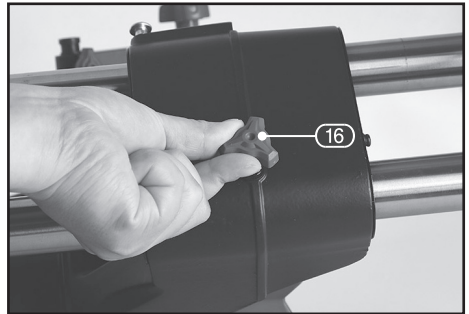

FIG.3
- Lift the mitre saw only when the saw arm is locked in the down position the sliding mechanism is locked (Fig.3.) and the machine is completely isolated from the power source by unplugging cable or removing battery.
- Only lift the saw by the carrying handles (23) and (24), or outer castings.
- Do not lift the saw using the guard or plunge handle (4).
### 8.3 SLIDE LOCK – FIG.3